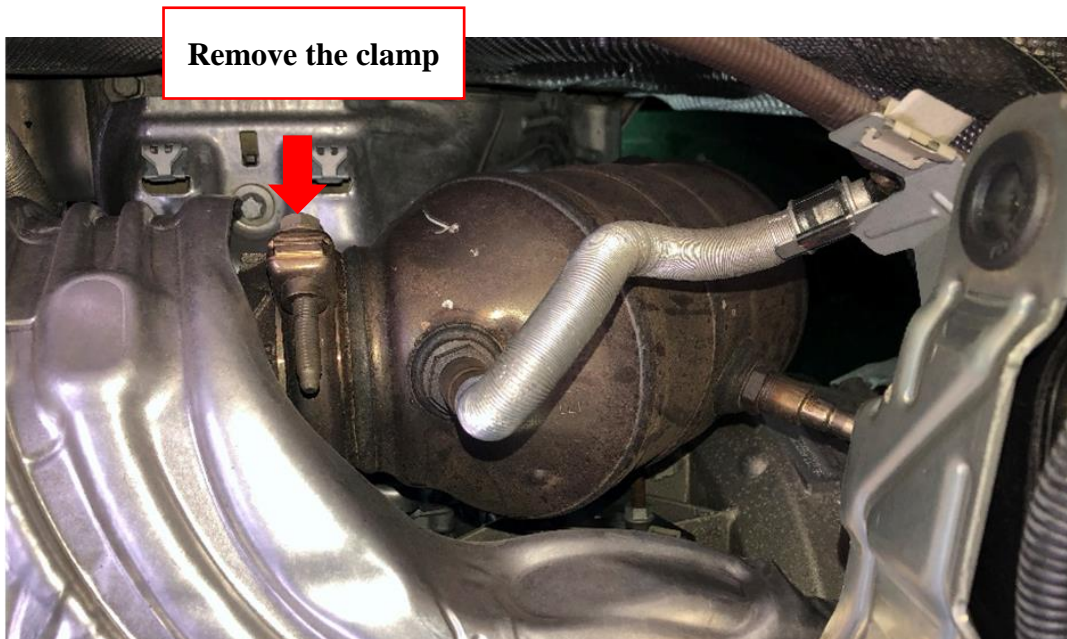

Fig.6
9. Remove the lower support fixed screw. (Fig.6)